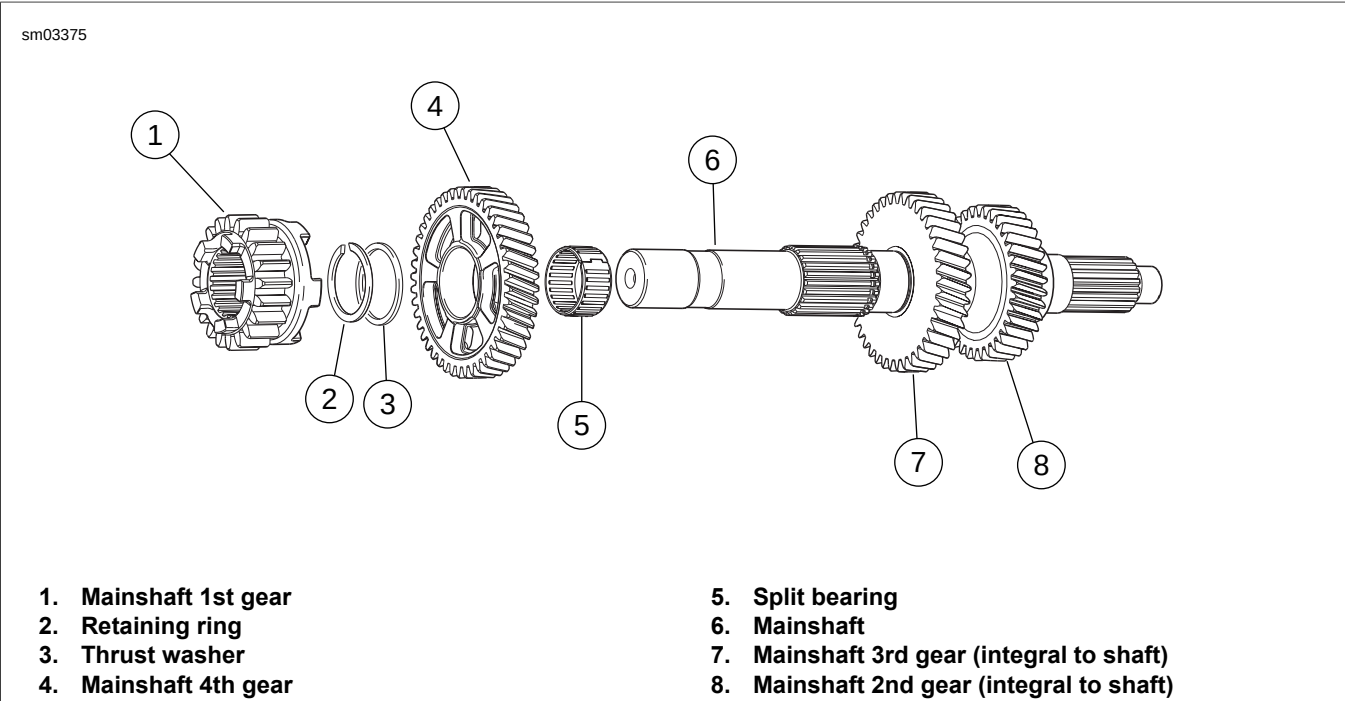

Figure 5-60. Transmission Mainshaft Assembly Once Removed from Left Crankcase/Disassembly
1. See Figure 5-60. Remove 1st gear (1).
2. Use TRANSMISSION SHAFT RETAINING RING PLIERS (Part No. J-5586-A) to expand and remove retaining ring (2). Discard retaining ring.
3. Slide thrust washer (3) off end of mainshaft.
4. Remove 4th gear (4) and split bearing (5). Discard bearing.